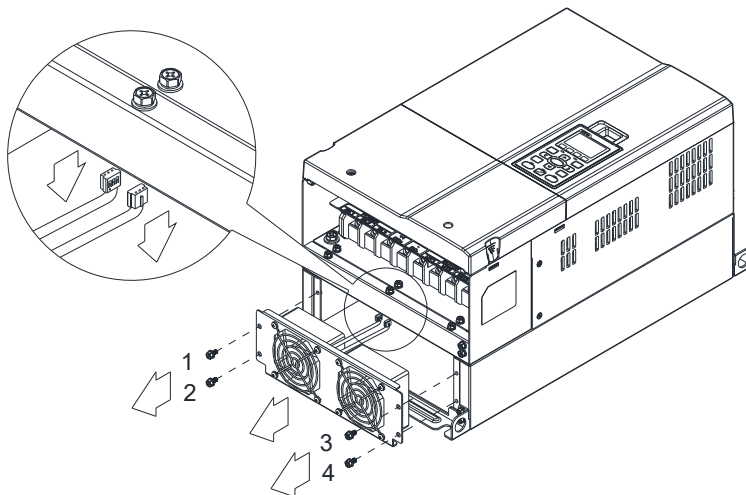

Figure 1
2. (As shown Figure 1) Before pulling out the fan, make sure the fan power is disconnected.